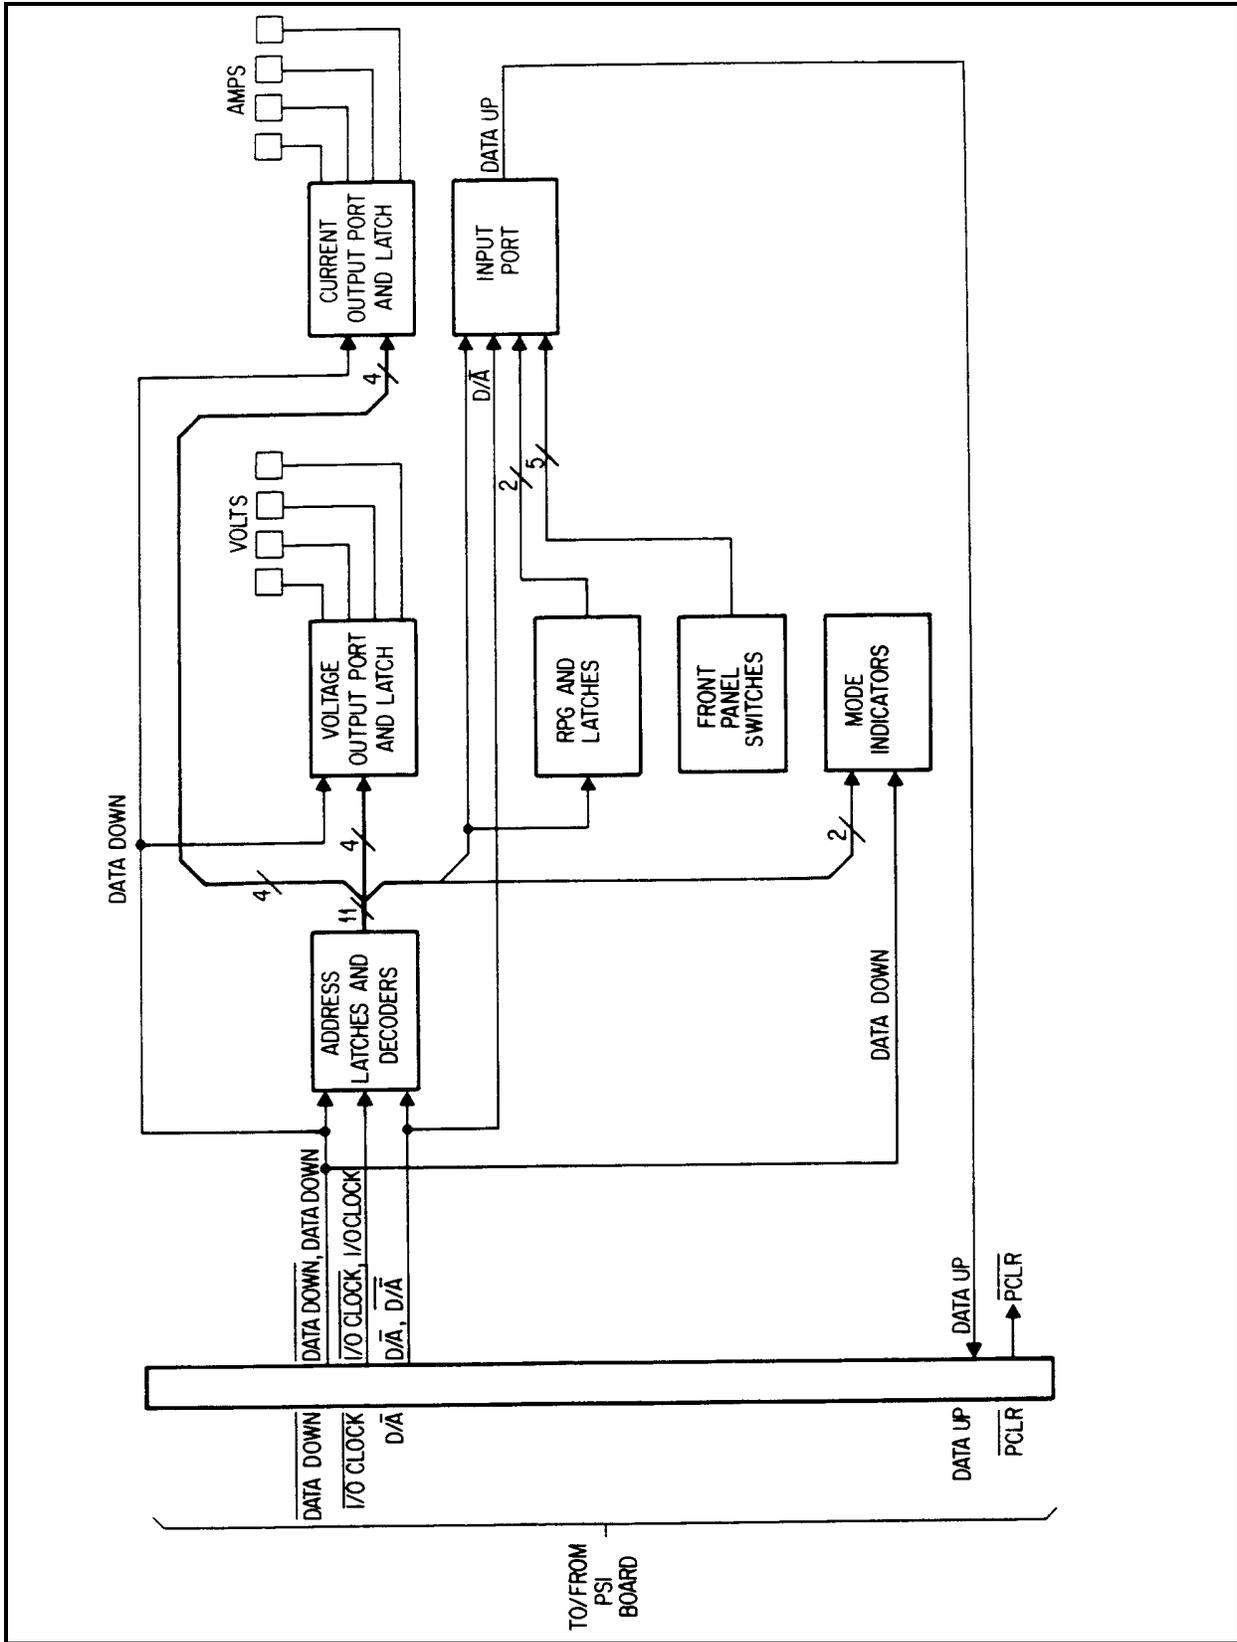

Figure 4-2. Front Panel Block Diagram
The front-panel board, see Figure 4-2, contains the VOLTS and AMPS display circuits, the rotary pulse generator (RPG) and RPG decoders, five pushbutton switches, mode indicators, and the OVP ADJUST potentiometer. Data from the microprocessor is shifted to the display circuits via $\overline{\text{DATA DOWN}}$, and data from the front-panel controls circuits is shifted to the microprocessor via DATA UP. Circuits on the front-panel board operate from bias voltages supplied from the GPIB board, and are referenced to the same common as the GPIB board (earth ground). The OVP ADJUST potentiometer is part of the power mesh control circuitry (referenced to power supply negative output), and is not connected to any circuits on the front-panel board.
1. DISPLAY CIRCUITS ARE SHOWN IN FIGURE 4-2.